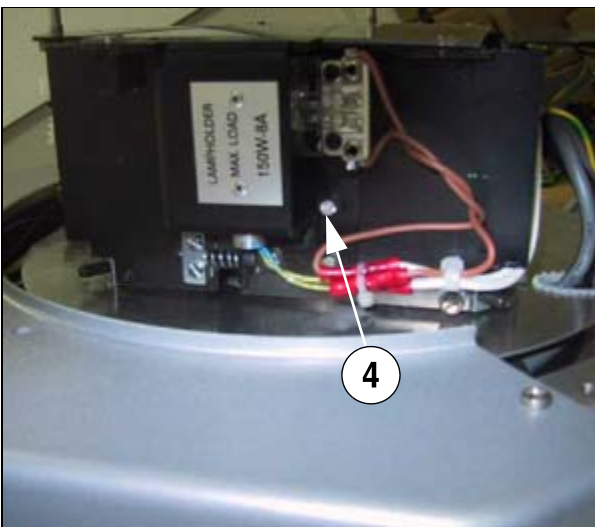

Fig. 22: Lamp socket
- Remove the protective cover from the lamp (4/Fig. 22 / p. 54).